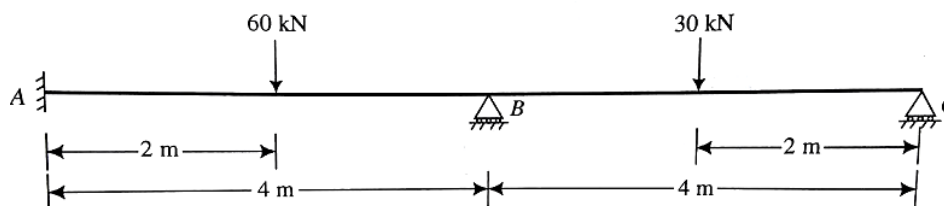

Figure 3.4
4. Analyze the continuous beam shown in Figure 3.4, if the downward settlement of supports B and C are 12 mm and 6 mm respectively. Given $EI = 20 \times 10^{12} \text{ N-mm}^2$. Use Flexibility matrix method